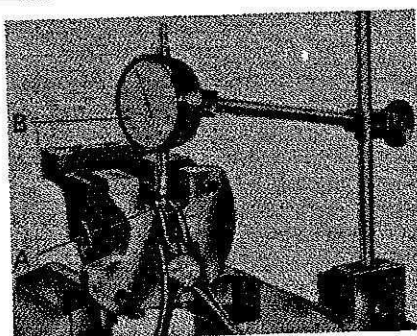

Fig. 201—View showing dial indicator being used to adjust traction control valve; refer to text for procedure.
vise and turn retainer (33—Fig. 108) on traction control valve plunger (32) in until plunger free movement is restricted to 0.002, then back retainer out $\frac{1}{8}$ -turn. Mount control valve in soft jawed vise as shown in Fig. 201 and set dial indicator plunger on top of the traction control valve plunger (A). With valve plunger resting on spring, zero the dial indicator. Then, using needle nose pliers as shown, lift valve plunger up against retainer and observe dial indicator reading. If reading is not within limits of 0.034 to 0.040, readjust traction control valve retainer until correct movement of valve plunger is obtained. Stake the retainer to hold it in the correct position.